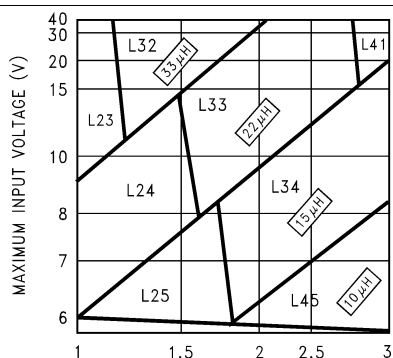
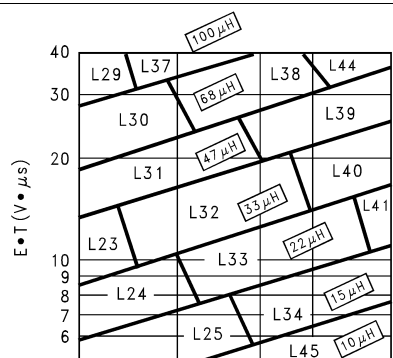

Figure 17. LM2676-3.3
Figure 20. LM2676-ADJ
Step 3: Determine the inductor required by using one of the four nomographs (Figure 17 through Figure 20). Table 3 provides a specific manufacturer and part number for the inductor.
Step 5: Determine an input capacitor from Table 7 or Table 8 for fixed output voltage applications. Use Table 1 or Table 2 to find the specific capacitor type. For adjustable output circuits, select a capacitor from Table 1 or Table 2 with a sufficient working voltage (WV) rating greater than $V_{IN\ max}$, and an RMS current rating greater than one-half the maximum load current (two or more capacitors in parallel can be required).
Step 3: Use the nomograph for the 3.3-V device (Figure 17). The intersection of the 16-V horizontal line (V_{IN} max) and the 2.5-A vertical line (I_{LOAD} max) indicates that L33, a 22- μH inductor, is required.